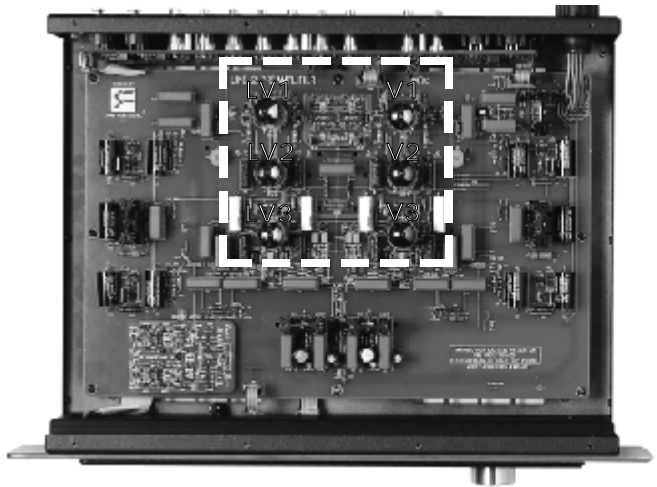

Figure 8 - Line 2 tube installation locations.
Y- Power Supply Umbilical Cord (Line 2 & Line 3 only) - This Umbilical Cord exits the Power Supply to plug into the Power Supply Input Socket (X) (see Figure 8 for connection).